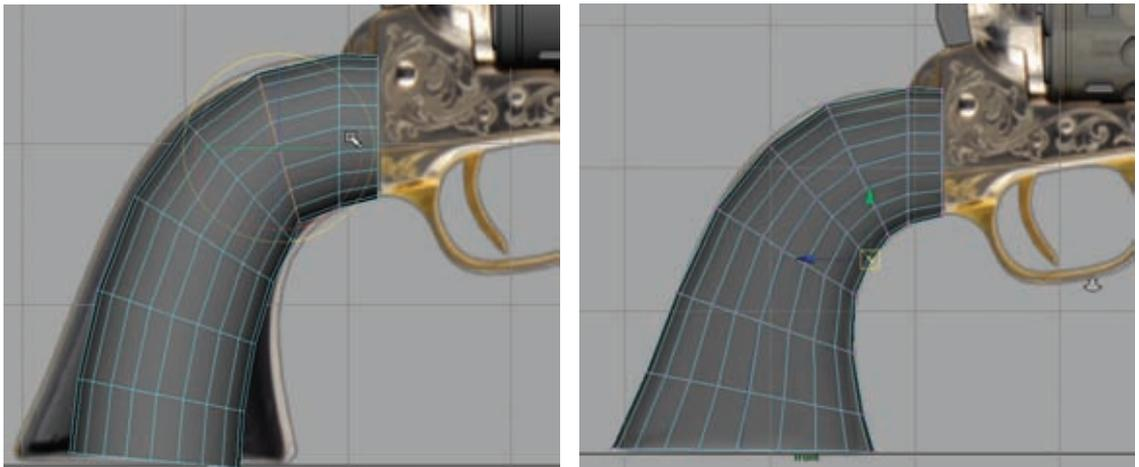

Figure 3.16
5. Back in the Front view, adjust each row of edges on the grip, rotating them for a smoother flow and scaling them up to more closely match the width of the grip in the reference image. You can see my result in Figure 3.16.